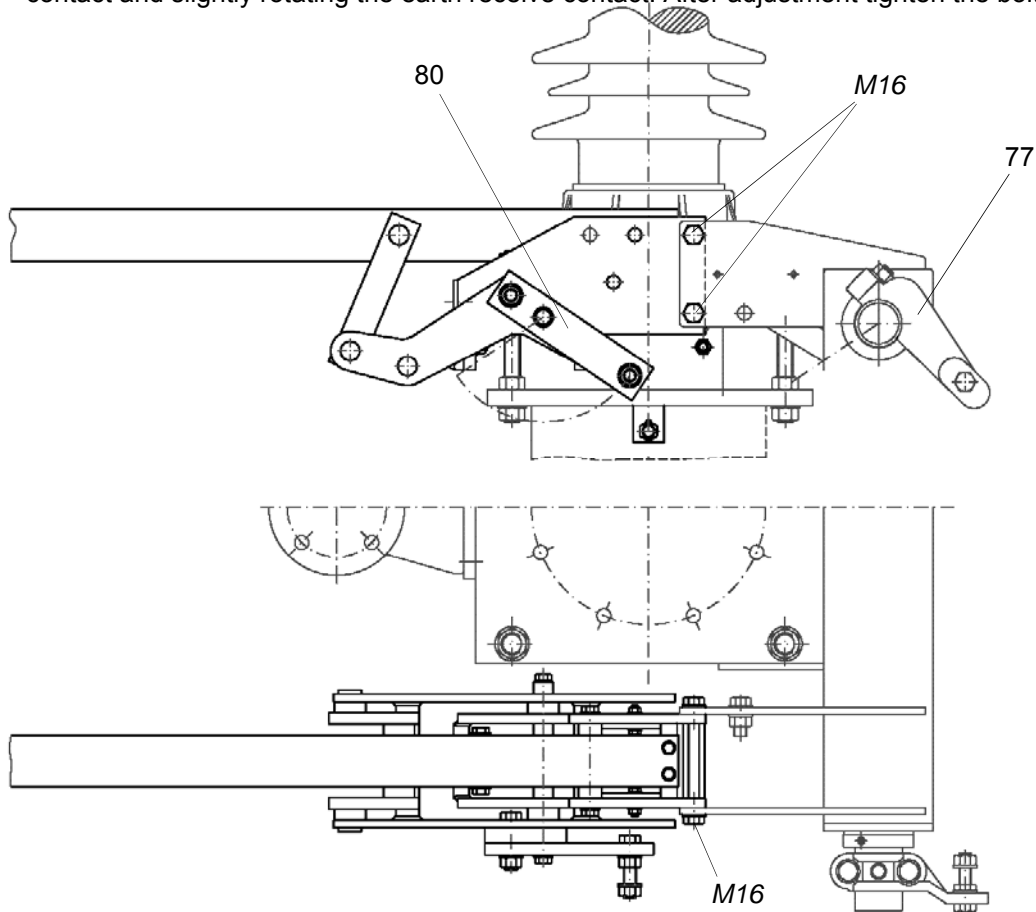

Figure 13 Assembly of earthing switch
- 7.7.4 Connect operating shaft 44 with shaft 43 by means of sleeve 414 and pin 415 (Fig 13)